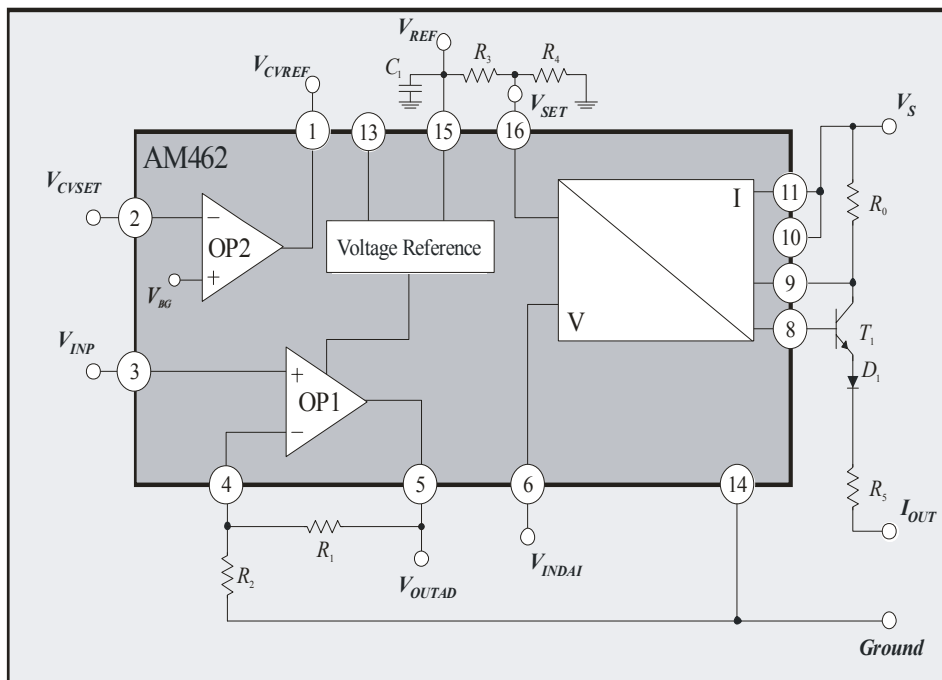
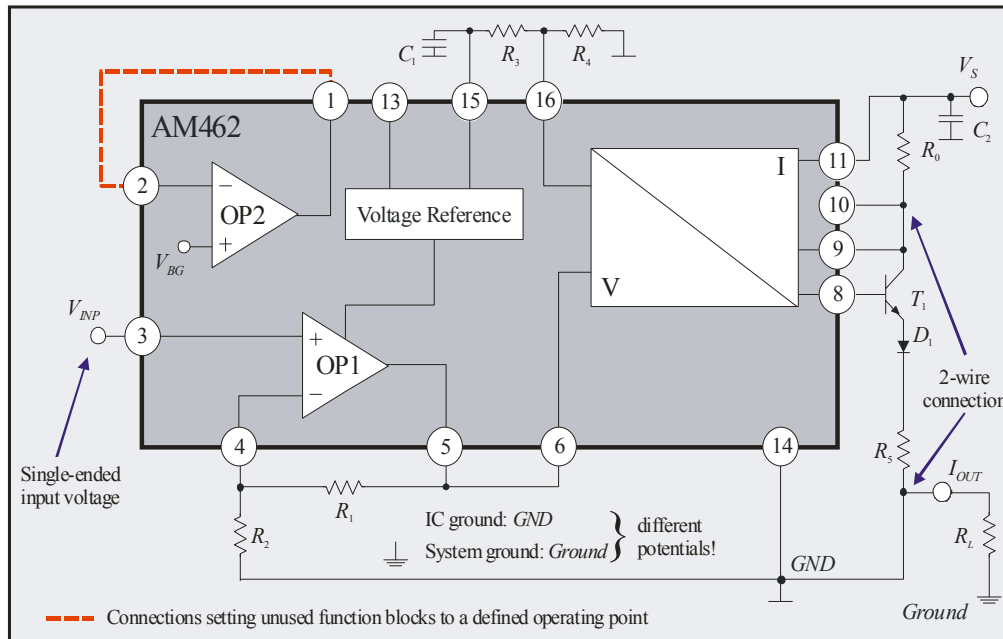

Figure 2: Block diagram of AM462 (3-wire circuit for current output). Pin 1 and 2 have to be connected.
Figure 8: Typical 2-wire operation for input signals referenced to ground
AM462 is a modular, universal V/I converter and protector IC which has been specially developed for the conditioning of voltage signals referenced to ground. It is designed for both 2- and 3-wire operation in industrial applications (cf. application in Figure 8). AM462's various functions are depicted in the block diagram (Figure 2) which also illustrates how few external components are required for the operation of this particular device.
AM462 consists of several modular function blocks (operational amplifiers, voltage-to-current converters and references) which, depending on external configurations, can either be switched to one another or operated separately (see the basic circuitry in Figure 2):
2. The internal voltage-to-current converter (V/I converter) provides a voltage-controlled current signal at IC output I_{OUT} (pin 8) which activates an external transistor T_1 ; this in turn supplies the actual output current I_{OUT} . To reduce power dissipation the transistor is an external component and protected against reverse polarity by an additional diode D_1 . Via pin SET an offset current I_{SET} can be set at output I_{OUT} (with the help of the internal voltage reference and an external voltage divider as shown in Figure 2, for example). External resistor R_0 permits the output current to be finely adjusted with parallel operation of current and the voltage output. For the output current provided by T_1 the following ratio applies:
- The AM462 *reference voltage source* enables voltage to be supplied to external components (such as sensors, microprocessors, etc.). The reference voltage value V_{REF} can be set via pin 13 $VSET$. If pin $VSET$ is not connected, $V_{REF} = 5V$; if $VSET$ is switched to ground, $V_{REF} = 10V$. Values between the above can be set if two external resistors are used (inserted between pin $VREF$ and pin $VSET$ and between pin $VSET$ and GND ; see Figure 2).
When using amplification stage OP1 together with the V/I converter for voltage-to-current conversion the offset of the output current should first be compensated for by suitable selection of resistors R_3 and R_4 . To this end the OP1 input must be connected to ground ($V_{INP} = 0$). With the short circuit at the input and by connecting up V/I converter pin *VSET* as shown in Figure 2 the values of the output current according to Equation 2 are as follows:
1. When operating AM462 it is imperative that external capacitor C_1 is **always** connected (cf. **Figure 2**). Care must be taken that the value of the capacitance does not lie beyond its given range, even across the range of temperature (see *Boundary Conditions* on page 7). In 2-wire operation ceramic capacitor C_2 must also be used (cf. Figure 8).
In a 2-wire version (cf. *Figure 8*) system supply voltage V_S is connected up to pin 11 ($RS+$) and pin 10 (VCC) to pin9 ($RS-$). The ground of the IC at pin14 (GND) is connected to the node between resistor R_5 and load resistor R_L . IC ground (GND) is **not** the same as system ground ($Ground$). The output signal is picked up via load resistor R_L which connects current output I_{OUT} to the system ground.